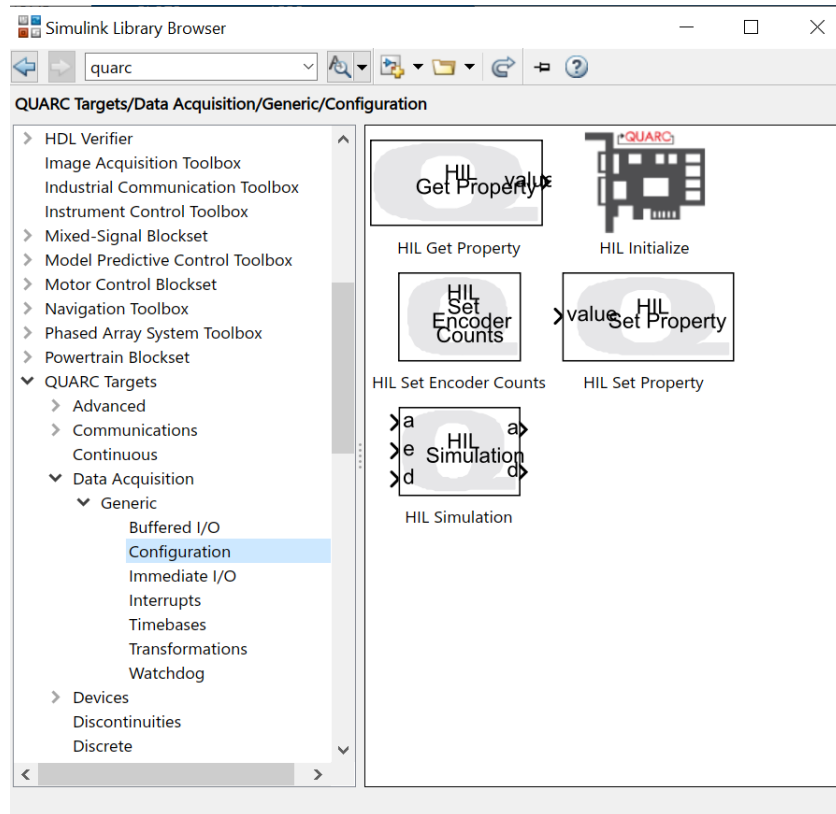

Figure 1.5: QUARC Targets in the Library Browser
6. Expand the `QUARC Targets` item and go to the `Data Acquisition | Generic | Configuration` folder, as shown in Figure 1.5.